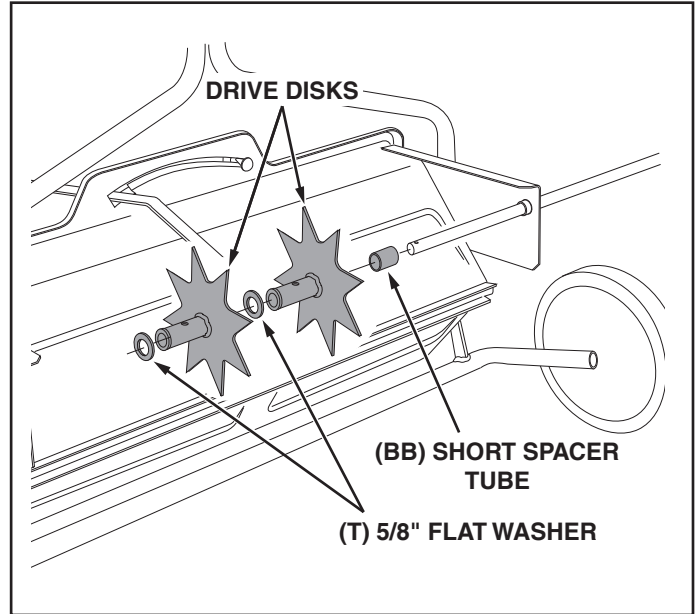

FIGURE 14
33. Place a short spacer tube, a drive disk, a 5/8" flat washer, another drive disk and a second 5/8" flat washer onto the shaft. Fit the short spacer tube onto the flanged bearing in the end plate. See figure 14.